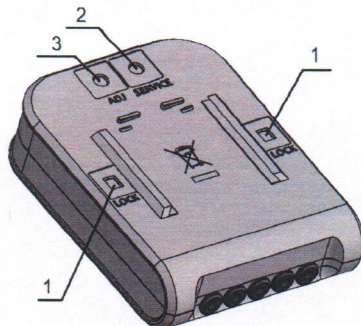

Fig.6. Sealing the calculator of the meter
The newly manufactured complete meter calculator shall not be subject to additional sealing. Access to the calculator cover release latch (Fig. 6, pos. 1), the parameter change and test mode activation contacts (Fig. 6, pos. 2) and adjustment data activation contacts (Fig. 6, pos. 3) is protected by easy break-out screens.
When the abovementioned casing screens are break-out (after opening the calculator casing, changing the meter parameters, adjusting the meter or activation the test mode), open slots are sealed with metrological seal-stickers (Fig. 6, pos. 1 and pos. 3) and with the protective seal-sticker of heat supplier (Fig 6, pos. 2).
Remove the screen „SERVICE“ on the back of the calculator or, if the screen has already broken down, a protective seal-sticker is removed (Fig. 6, pos. 2 of this appendix), or, for a combined device, opens the calculator box. By short-circuiting the contacts „SERVICE“, the SERVICE mode is activated, symbol „<->“ and sign „TEST“ are displayed on the LCD.